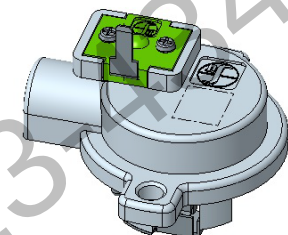

Fig. 3
5. Remove the protective plastic cap (Fig. 3) from the new solenoid assembly.